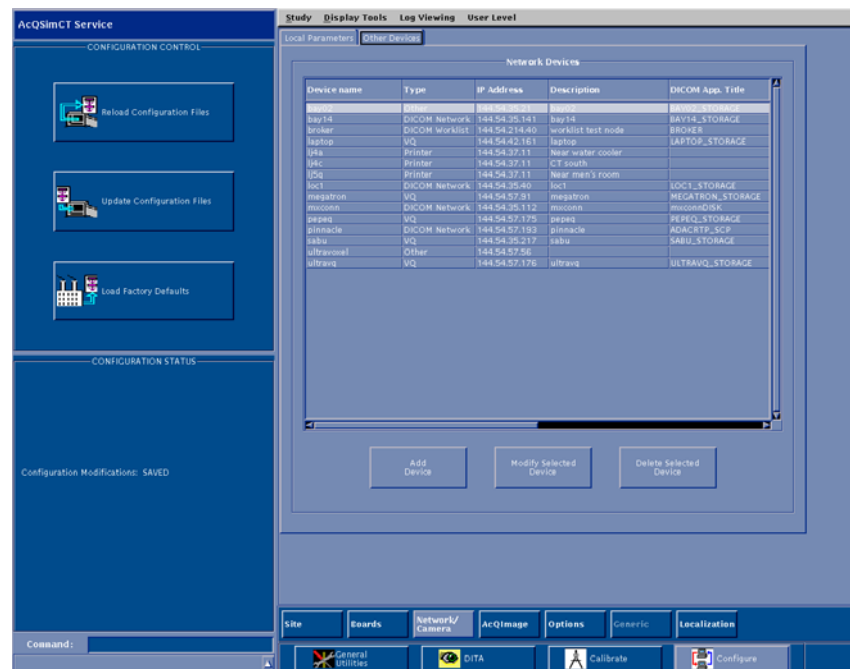

FIGURE 5 NETWORK DEVICES SCREEN
5. Select either **Add Device** to add a printer or **Modify Selected Device**. See figure 5.